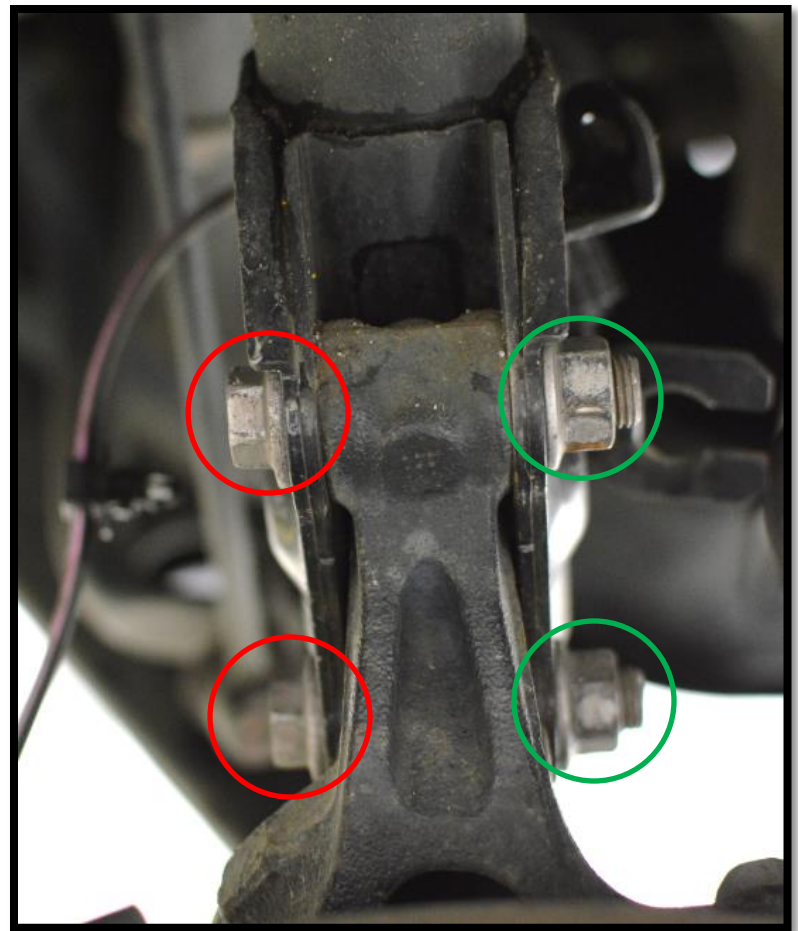

Figure 1c
- g) Use a 17mm wrench on the bolt head circled in red in Figure 1c.
- h) Use a 19mm wrench on the bolt nut circled in green in Figure 1c.